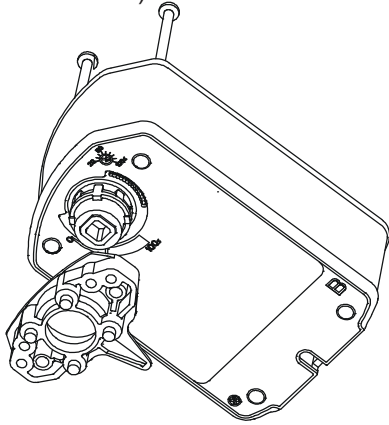

Figure 7: Installing the Linkage
4. Install linkage base on Side B using the two #10-14 x 2.75 in. long screws (Figure 7). The recommended torque is 20 to 24 lb-in. (2.3 to 2.7 N·m).